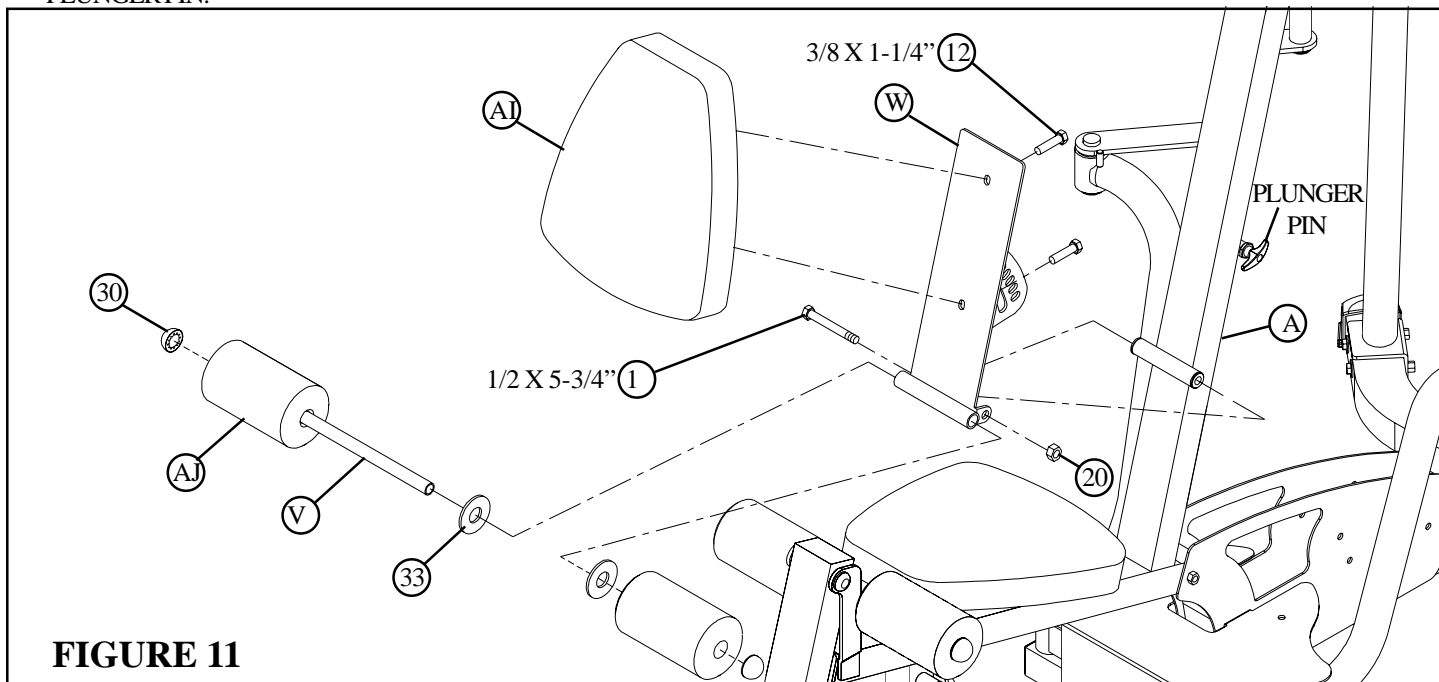

FIGURE 11
- **SECURELY** assemble one SEAT/BACK PAD (AI) to the BACK INCLINE ADJUST (W) using two 3/8 X 1-1/4" BOLTS (12).
- **SECURELY** assemble the BACK INCLINE ADJUST (W) to the FRAME (A) using one 1/2 X 5-3/4" BOLT (1) and one 1/2" LOCK NUT (20). The BACK PAD angle can be adjusted using the PLUNGER. (**Note: Tighten this connection enough to remove excess play yet allow the BACK INCLINE ADJUST to rotate freely.**)
- Assemble two ROLLER PADS (AJ) to the BACK INCLINE ADJUST (W) using one 3/4 X 19-7/8" TUBE (V), two PLASTIC WASHERS (33) and two STARLOCK COLLARS (30) as shown in FIGURE 11.